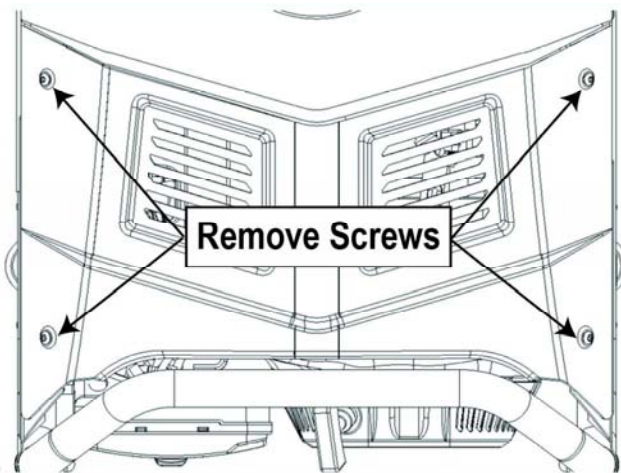

Figure 4-2: Remove Screws
2. Using a 5mm Allen wrench, remove the four (4) button head screws to the top cover and remove the front top cover to gain access to the spark plug (Figure 4-2).